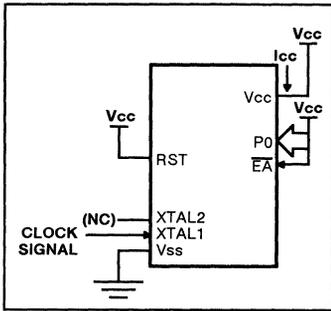

Figure 9.  $I_{CC}$  Test Condition, Active Mode
- See Figures 9 through 12 for ICC test conditions.